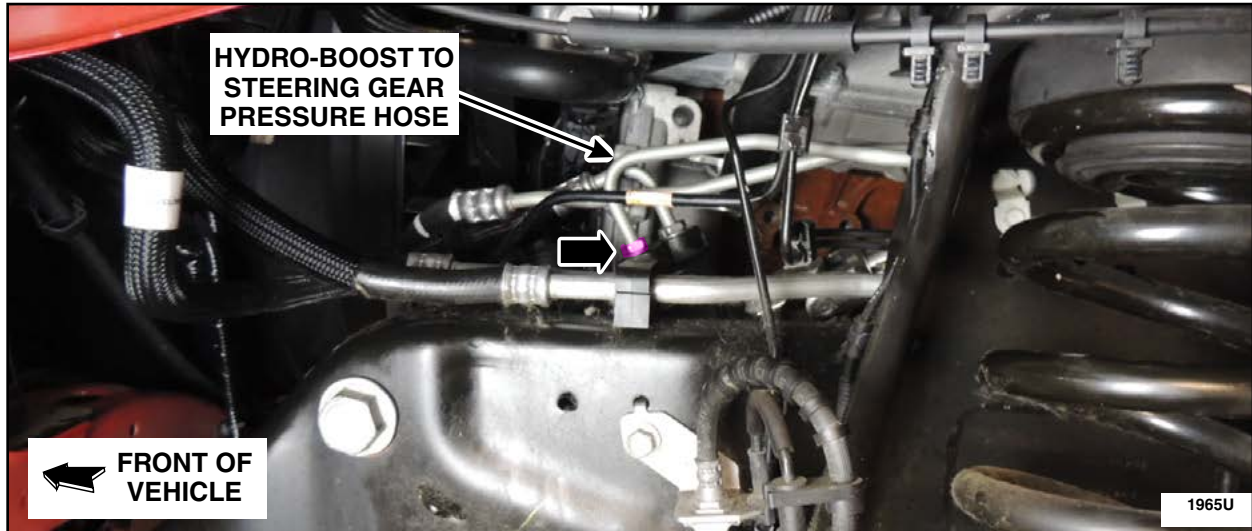

FIGURE 22
2. Remove the hose fitting from the steering gear and disconnect the Hydro-Boost to steering gear pressure hose. See Figure 22.